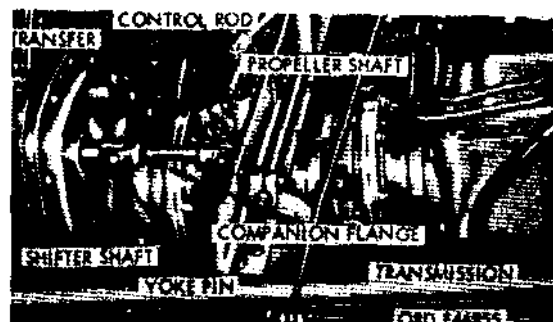

Figure 196. Transmission-to-transfer propeller shaft and shift linkage
g. Remove cotter pin from end of control-rod-yoke pin (fig. 196), remove yoke pin, and remove control rod from shifter shaft.
h. Position control rod yoke on front end of shifter shaft (fig. 196), and secure with yoke pin and cotter pin.
k. Move transfer shifter shaft (fig. 196) toward the rear of the vehicle as far as it will go.